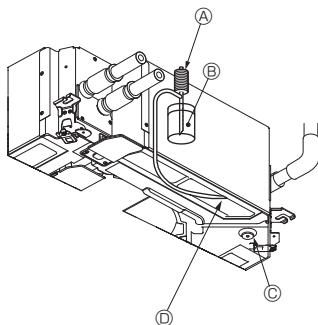

Fig. 7-8
7.3. Check of drainage (Fig. 7-8)